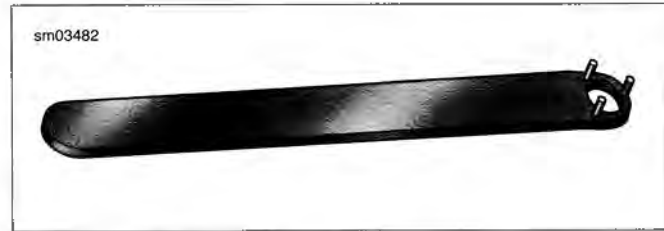
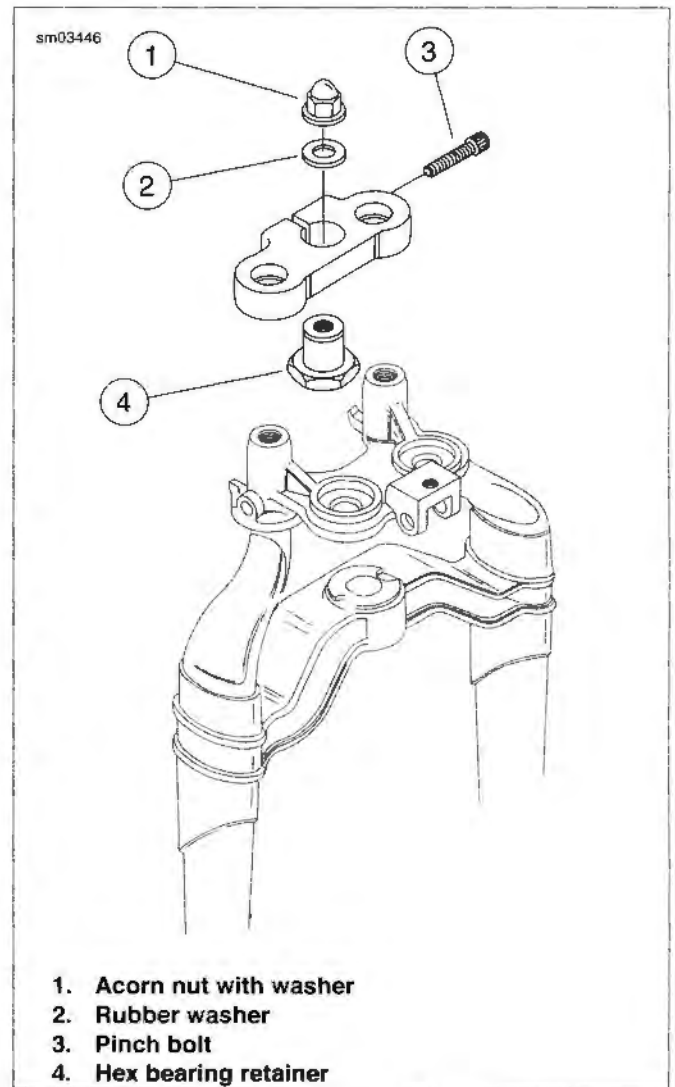

Figure 1-48. Springer Steering Head Bearing Tool (HD-47255)
Figure 1-49. Fork Adjustment
3. See Figure 1-49. Remove the acorn nut with washer (1) and rubber washer (2).
- a. Loosen the upper fork stem pinch bolt (3).
- b. See Figure 1-48. Insert the SPRINGER STEERING HEAD BEARING TOOL (Part No. HD-47255) into the upper triple clamp and hex bearing retainer holes.
- c. See Figure 1-49. Loosen the hex bearing retainer (4) slightly.
- a. Loosen the pinch bolt (3).
- c. See Figure 1-49. Tighten the hex bearing retainer (4) slightly.